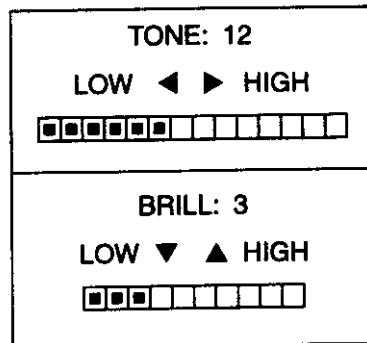

Figure 1-3 Dialogue for adjustment of LCD tone and brilliance
1. Press the [TONE] key. The dialogue shown in Figure 1-3 appears.